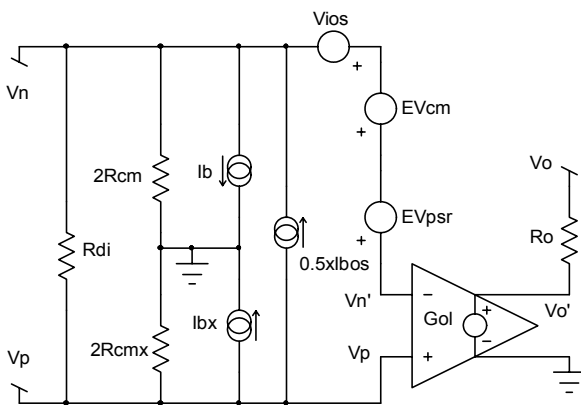
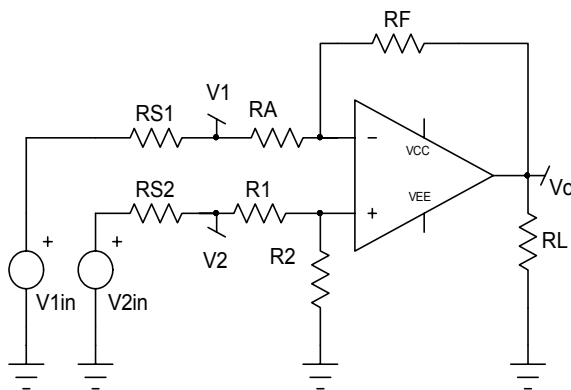

Figure 1
Figure 2
Figure 1 illustrates an Op Amp model used to identify those error parameters specified on data sheets. This model provides a first order approximation (FOA) of how these error parameters may affect application topologies. The "x" on parameters designates assumed equal values.
Definitions: Reference Figure 1
1. **Rdi** is the differential input resistance between positive and negative input terminals. It is typically large enough to neglect in most practical situations; however, its value should always be examined. Data sheets specify input resistance as the resistance seen at one input with the other grounded. This data sheet parameter is Rdi in parallel with 2Rcm in Figure 1 and is essentially Rdi.
Current sources in Figure 1 support these equations.
5. **Vios** (input offset voltage) is an internal IC device voltage error (referenced to the input) that relates output voltage for zero input. IC Op Amps have internal circuits that depend on matched devices. Perfect matching can not be achieved; therefore, a mismatch voltage error term exists as Vios in Figure 1. Note that an applied voltage equal to Vios between Vn, Vp such that the voltage between Vn', Vp' is zero, forces the output to zero, neglecting all other error terms.
6. **PSRR**, power supply rejection ratio, is responsible for a voltage error term referenced to the input, which relates changes in output voltage for changes in the IC supply voltages. The error term EVPSR in Figure 1 has a value of $(PSRR * \Delta \text{supply voltage})$ for PSRRs given in data sheets as $\mu\text{V/V}$. PSRR may be given in dB for which EVpsr in Figure 1 is $(\Delta \text{supply voltage} * 10^{-PSRR/20})$.
7. **CMRR**, common mode rejection ratio, determines a voltage error term referenced to the input, which relates the output voltage to a common mode voltage (V_{cm}) applied to both positive and negative inputs. Figure 1 shows this error term referenced to the input as EV_{cm} . Equation 3 illustrates how this error term is calculated.
The technique used in calculating impacts of error terms for a given application topology begins by using Figure 1 in a specific application topology and solving for the analytical output voltage (V_o) expression using Eqn 4, which neglects R_o .
Figure 2 is the difference amplifier topology chosen for analysis in this Application Note because it is particularly vulnerable to resistor tolerances. Errors dominated by external resistor tolerances may justify a topology change; therefore, errors due to external resistors should always be examined first before internal IC errors are analyzed.
For now, assume the input voltage sources are near ideal (i.e. $RS1=RS2=0$). Using concepts embodied in Eqn 4, the output voltage (V_o) in Figure 2 is illustrated by Eqn 5.
Table 1 illustrates how resistor tolerances in Figure 2 impact the circuit gain for a random lot with open loop gain (G_{ol}) constant. Note that the net percent error due to resistor tolerances alone can be very significant in this topology.
The output voltage error caused by an Op Amp's internal mismatch voltage error term Vios is shown in Eqn 6 for the topology of Figure 2, using the Op Amp error model in Figure 1.
Input currents Ip and In on both the positive and negative inputs flow through the DC Thevenin Resistance associated with each input and develop unwanted voltages, which are amplified by the application topology. Eqn 7 shows this error for the topology in Figure 2, using the error model in Figure 1 with Eqns 1, 2.
As previously discussed internal mismatches in the Op Amp cause output errors. Another example of this type error is the term EVcm, which is referenced to the input in Figure 1. The associated output error due to this term is shown in Eqn 8 for the topology in Figure 2.
Note: In Figure 2, one can assume that the external voltage between Op Amp inputs is essentially zero. Therefore, any Thevenin voltage on the Op Amp positive (+) input is essentially the common mode voltage (a quick trick to identifying, V_{cm}^T).
Another error due to Op Amp internal mismatches is an output voltage change for changes in the power supply voltages. Figure 1 shows this error term referenced to the input as EVpsr. Equation 9 is the output error voltage for an Op Amp PSRR given in data sheets as $\mu\text{V/V}$.
Typical Op Amp values for the difference amplifier topology of Figure 2 at 25° C is shown below. Change in power supply voltage is assumed to be 500mV.
Table 2 illustrates how error parameters in Figure 1 impact the total output voltage for the difference amplifier in Figure 2.
The above analysis of Figures 1,2 shows;
In calculating the overall gain for this topology, amplifiers $G1$, $G2$, are assumed to be near ideal with $G3$ an ideal unity gain amplifier. Specifically R_o , R_{di} , R_{cm} , and error parameters in Figure 1 are neglected. The output stage $G3$ is typically the difference amplifier of Figure 2.